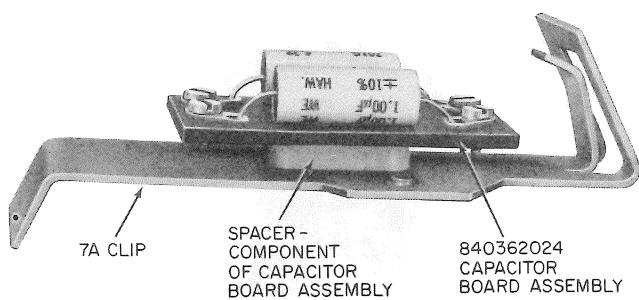

Fig. 53—Capacitor Board Assembly Mounted on 7A Clip
- (b) Install capacitor board assembly on rear of 7A clip in panel sets (Fig. 53).